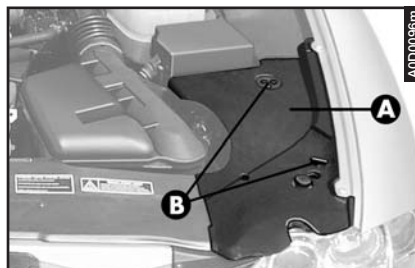
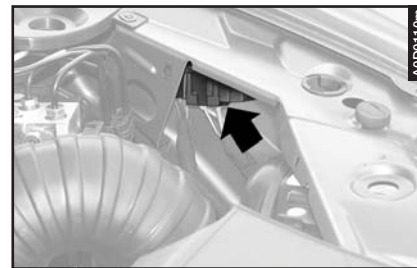

fig. 90
fig. 91
- On a bracket set behind the left headlight (**fig. 91**).
To gain access to relays on the bracket set behind the left headlight (**fig. 91**), remove the cover (**A-fig. 90**) after turning the fastening pins (**B**).
Circuits operated by relays are the following (**fig. 91**):